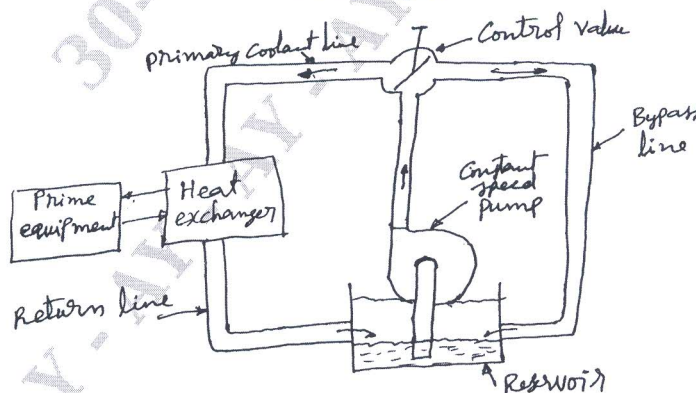

Fig.Q8
- 8 Draw Fault tree for the coolant supply to heat exchanger as shown in fig. Q8. Here the top event is loss of minimum flow to the heat exchanger. (20 Marks)